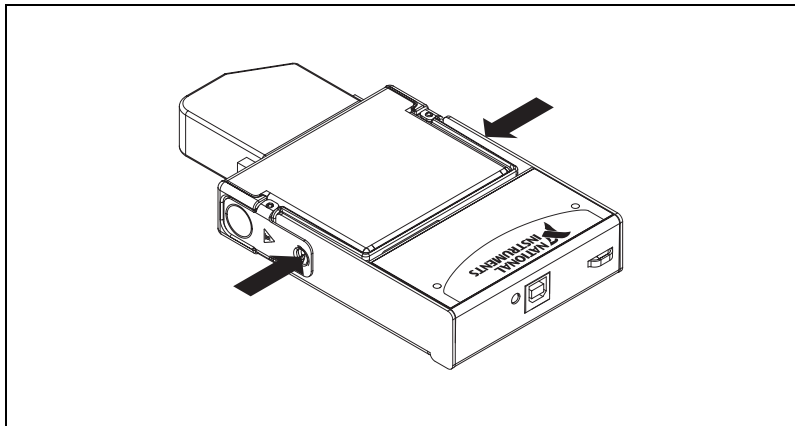

Figure 5. Locking Module into Place
5. Press firmly on the connector side of the NI 9201/9221 module until the latches lock the module into place, as shown in Figure 5.